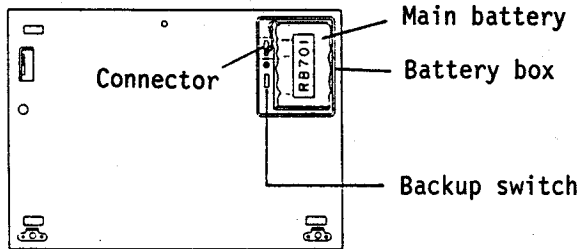

Fig. 2-1-2
- ① Open the battery box cover, on the rear side of the base unit. It is secured with screws, back them out of the base unit rear cover.
- ② Set the main battery into the battery box. Be sure that the label faces up, as indicated in Fig. 2-1-2.